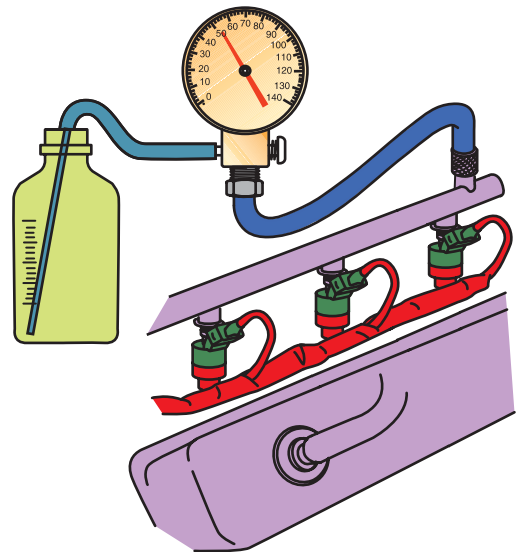

FIGURE 23-26 Testing fuel-pump volume using a fuel-pressure gauge with a bleed hose inserted into a suitable container. The engine is running during this test.
- Good pressure does not mean proper volume. For example, a clogged filter may test okay on pressure, but the restriction may not allow proper volume under load. ● **SEE FIGURE 23-26.**